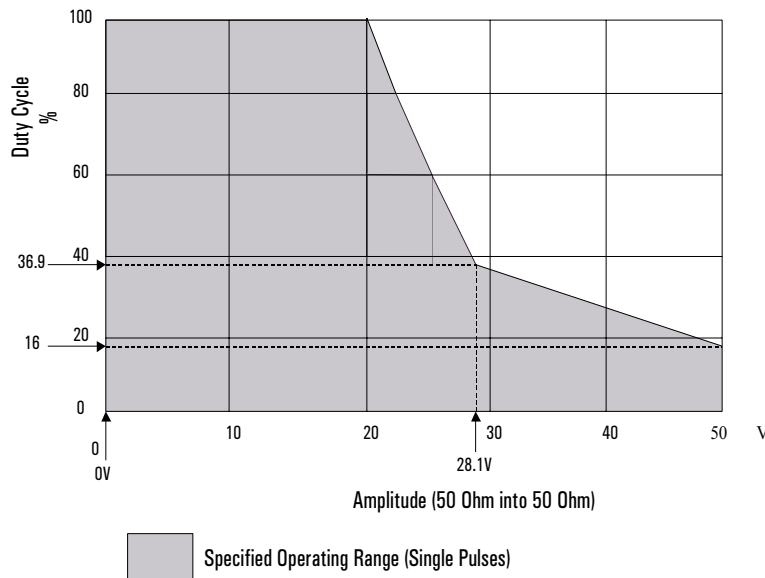

Figure 1
*Figure 1* shows the specified operating range for actual duty cycle and amplitude. Note that in double pulse mode the actual duty cycle is twice the displayed value.